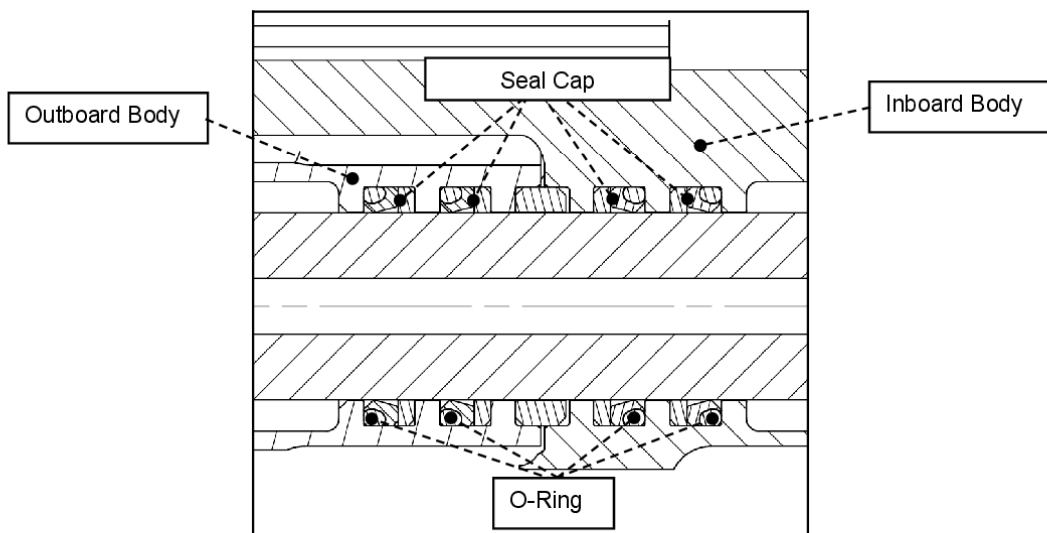

Figure 1: Dynamic Seals Orientation in the Inboard and Outboard Body (Central Glands)
1. Refer to Figure 1. Install the O-Ring (P/N 081341), the Seal Cap and Back-Up Ring (P/N 085366) in the interface bores of the inboard (P/N 71827-81 or 70715-81) and outboard bodies (P/N 70711-81 or 71831-81).